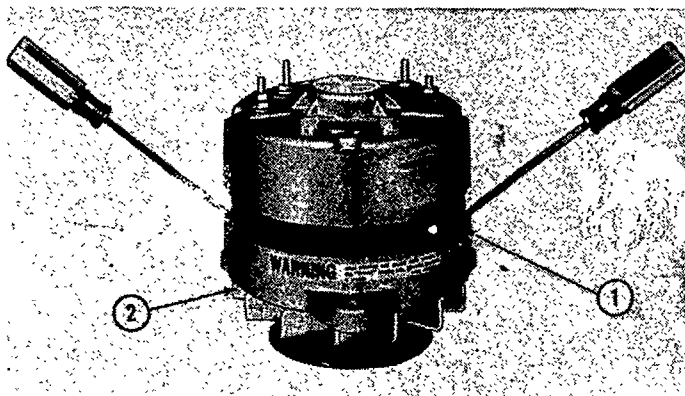

Figure 32
- Insert two small screwdrivers in the stator slots between the stator and front housing, as shown in Figure 32.